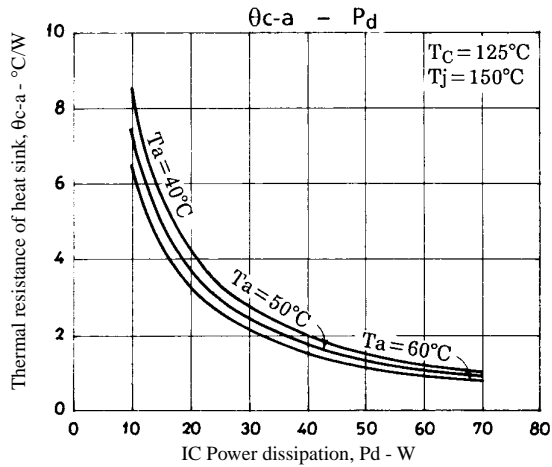

Figure 3. STK4172II θc-a - Pd
Figure 3 shows the relation between Pd and θc-a given from (1) and (3) with Ta as a parameter.
The thermal resistance of a heat sink is obtained from Figure 3.